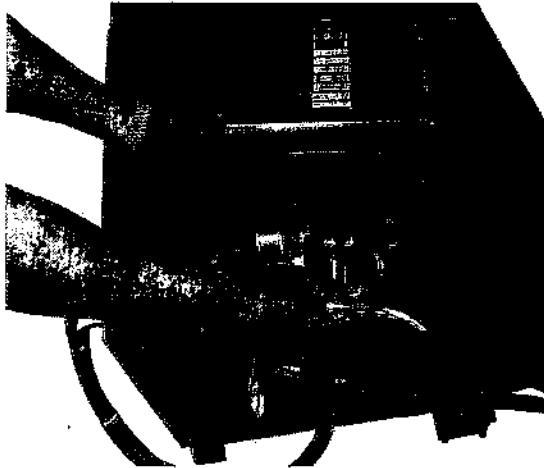

Fig. 23
3. Rotate the upper assembly using both hands as shown in picture (Fig. 23) to the desired angle by following the index on the scale (C - Fig. 22).